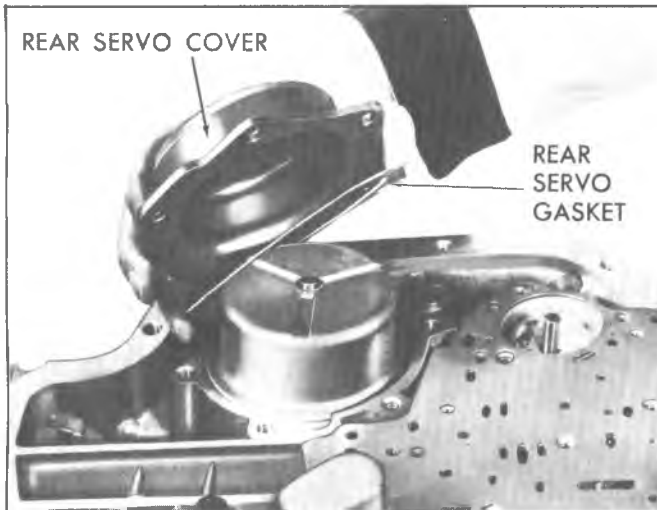

Fig. 149T--Installing Rear Servo Cover and Gasket
4. Install rear servo gasket and cover (fig. 149T).